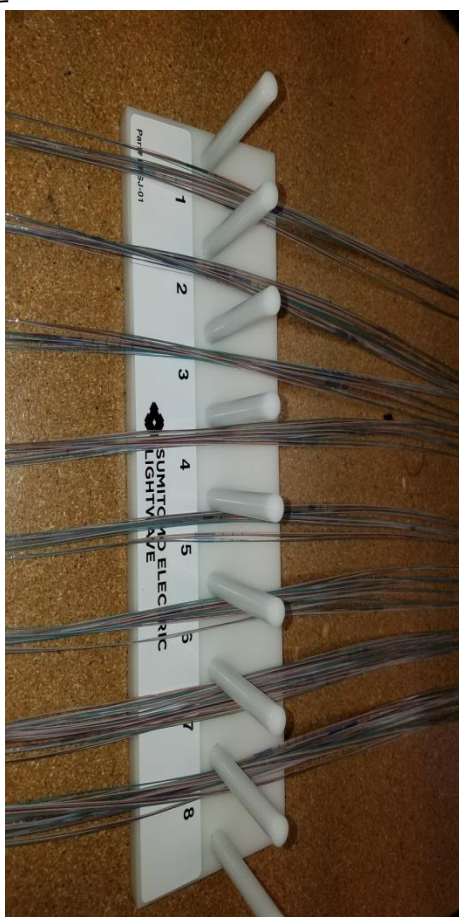
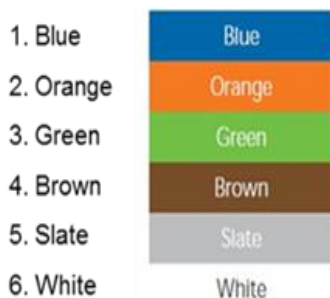

Figure 3
Figure 4
5.1.1 See doc: SP-F02-029 for cable prep procedures. At step 5.1.8 remove the ribbons from slot number 1. Place them in Jig slot 1 (see Figure 3). Remove the ribbons from slots 2 to 6 and placing them in the corresponding Jig slots. Following the cable color codes (see Figure 4) place the ribbons from Jig slot 1 into the Blue sock. Place the ribbons from Jig slot 2 into the Orange sock and so on. Placing blue painters tape around the end of the ribbon bundle from each slot will make it easier to insert/feed the ribbons through the sock.